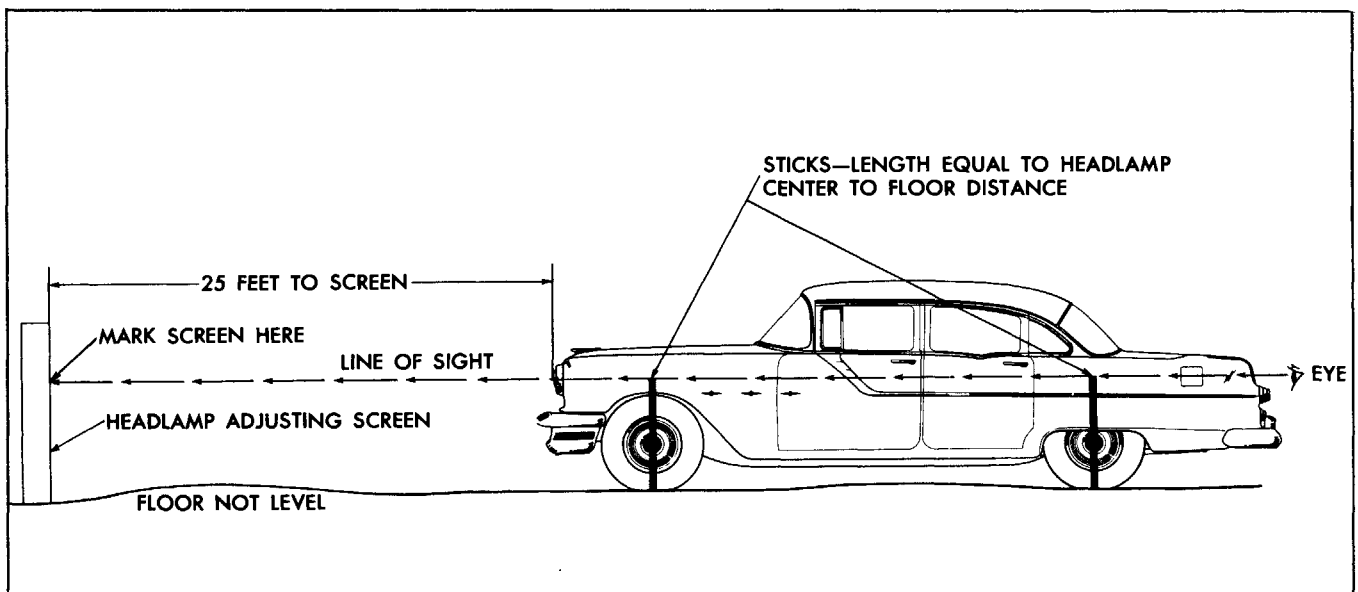

Fig. 12-62 Locating Headlamp Center Level on Screen
3. Locate headlamp center level line (Fig.12-62) at the same height as lamp centers above ground. If floor that car and screen are resting on is not level, headlamp center level line cannot be located by measuring from ground at screen. In this case line should be located by cutting two sticks of length equal to the headlamp center to floor distance and placing these sticks vertically with one end resting on floor at the front and rear fender; sight by eye, locating a point on the screen in line with the tops of the sticks; this is the position of the center level line (Fig. 12-62).